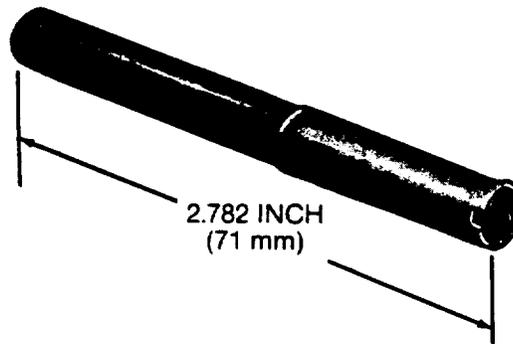

Figure 15. KS-20963 Sleeve
2.22 The KS-16903, L1 wrapping bit is intended for use with the KS-20963, L3 wire-wrapping sleeve and driver tools such as the KS-16363, L3 wire-wrapping tool and KS-21232 wire-wrapping gun (see Figures 15, 16, and Table D).